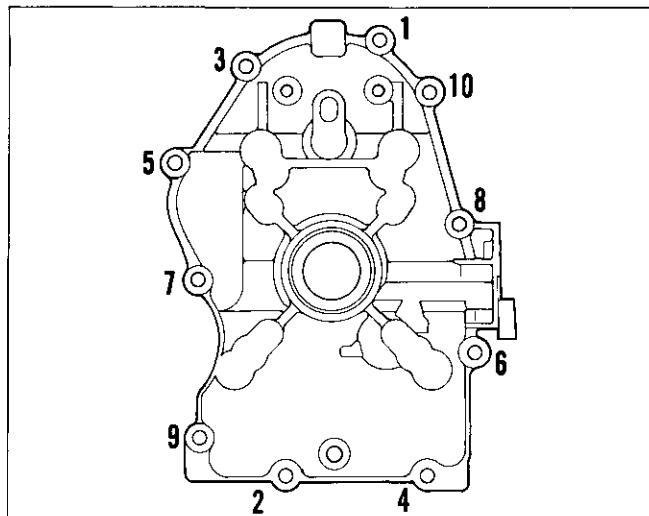

Figure 11-18. Fastener Torque Sequence.
6. Install the ten hex. flange screws securing the closure plate to the crankcase. Torque fasteners in the proper sequence to **24.4 N·m (216 in. lb.)**. See Figure 11-18 for the proper torque sequence.